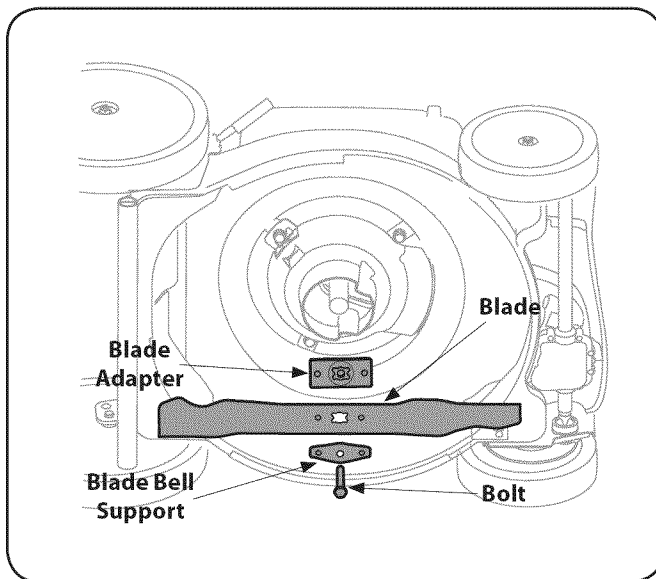

Figure 7-1
2. Remove the bolt and the blade bell support which hold the blade and the blade adapter to the engine crankshaft. See Fig. 7-1.
3. Remove blade and adapter from the crankshaft. See Fig. 7-1 (25mm adapter shown).
2. Tip mower on its side with the air filter up to access belt from underside of mower and remove blade as described in the previous section. Refer to Fig. 7-1.